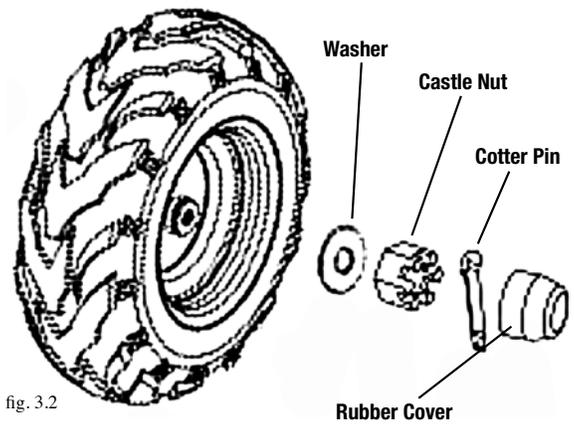

fig. 3.2
B. Rear Wheel Replacement (see figure 3.2)